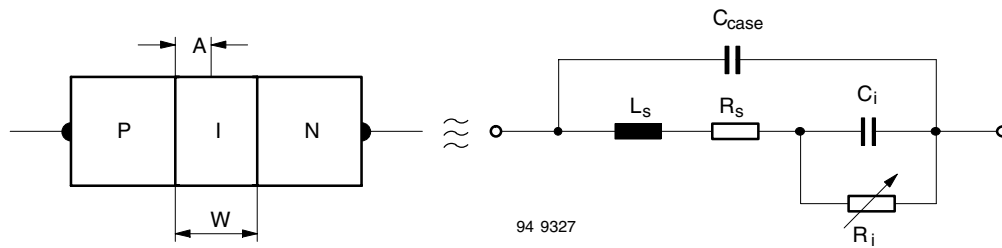

Figure 6.
PIN stands for p-intrinsic-n. In this type of diode, a heavily doped p region and a heavily doped n region are separated by a layer of high resistivity material which is nearly intrinsic (I), as shown in figure 6. Under reverse bias, the PIN diode has a very high impedance (at microwave frequencies), whereas at moderate forward current it has a very low impedance.